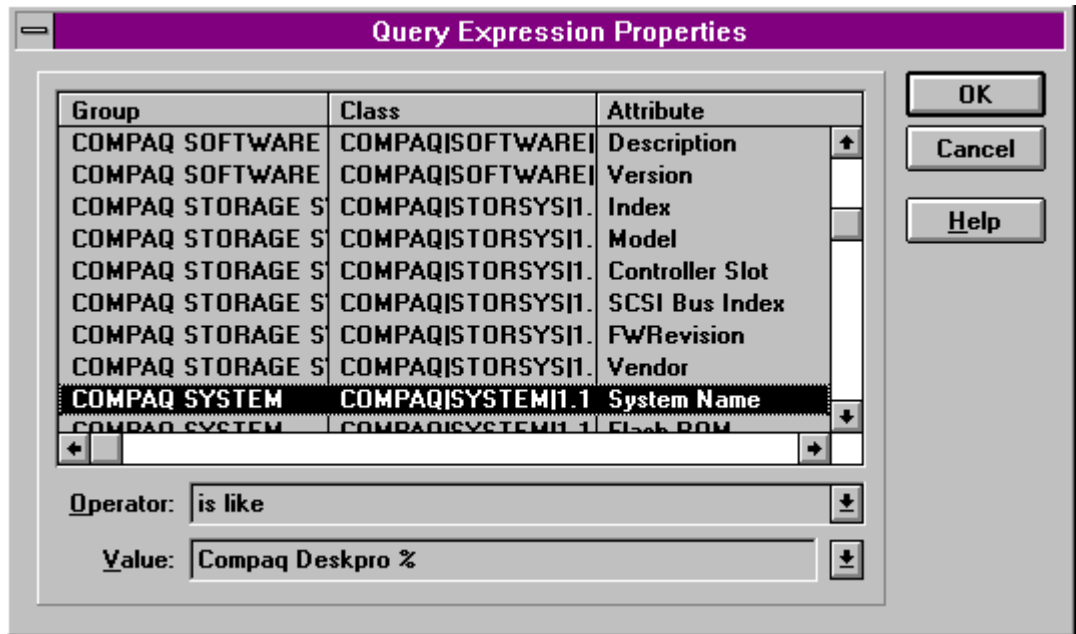

Figure 6-20. Finding the System Name attribute
10. Scroll through the list until you find the *System Name* attribute. An example of the Query Expression Properties window is shown in Figure 6-20.